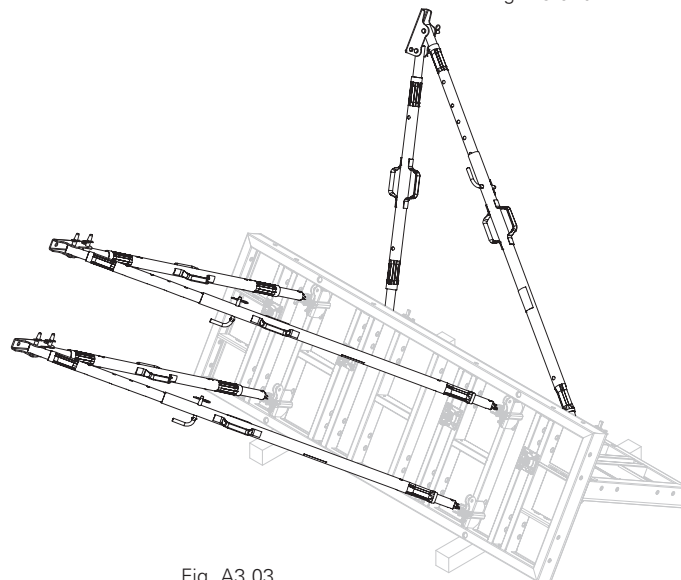

Fig. A3.03
4. Mount Base Plate. (Fig. A3.03)